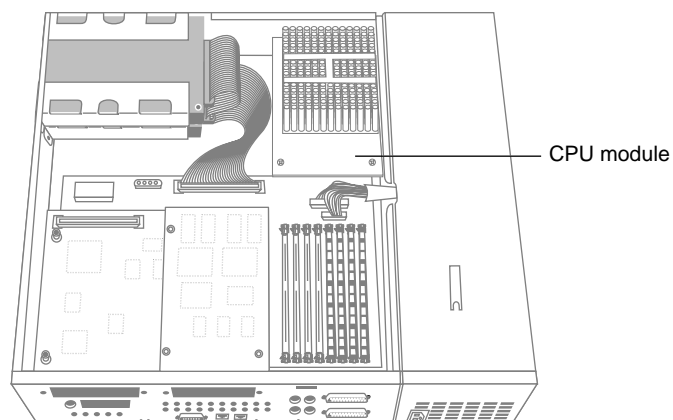

Figure 22 Locating the CPU module
1. Locate the CPU module, as shown in Figure 22.